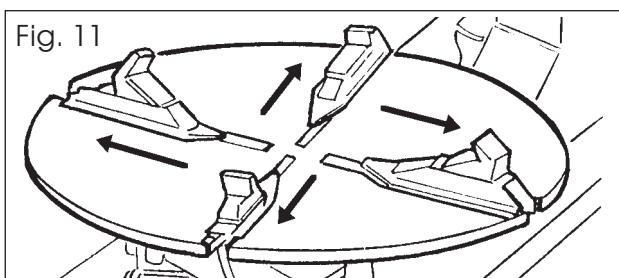
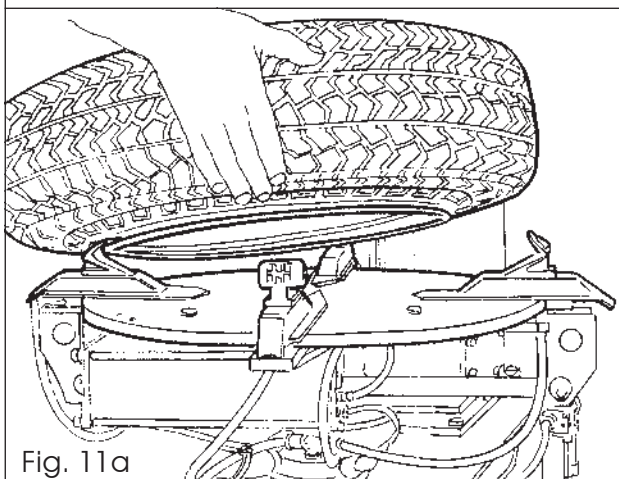
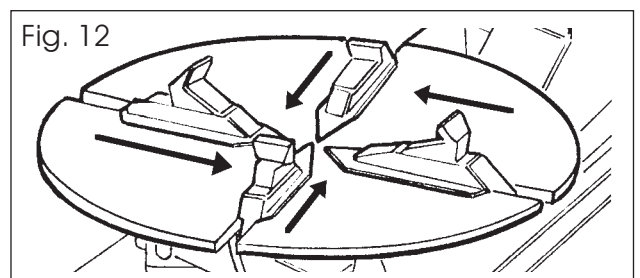

Fig. 11
Fig. 11a
Fig. 12
- ❑ For A 9820 depress pedal (10) to bring the sliding clamps to the outside of the table (Fig.11) if you wish to clamp the rim on the outside as shown in Figure 11a (recommended for alloy rims); alternatively, keep pedal (10) depressed to bring the sliding clamps to the centre of the table (Fig.12) if you wish to clamp the rim on the inside (Fig.12a). For A 9824 see Figure 12c .